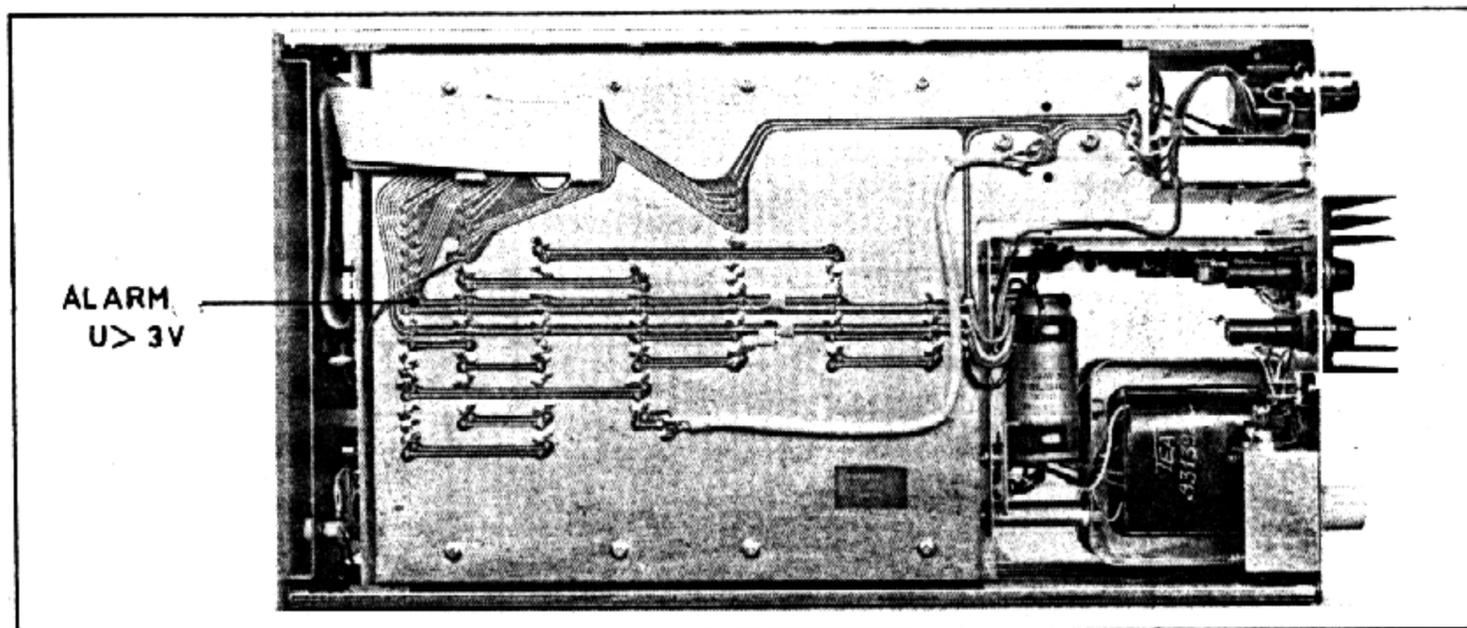

Figure VII-6 - Alarm voltage measurement
- Refer to figure VII-6 for the localization of the control point